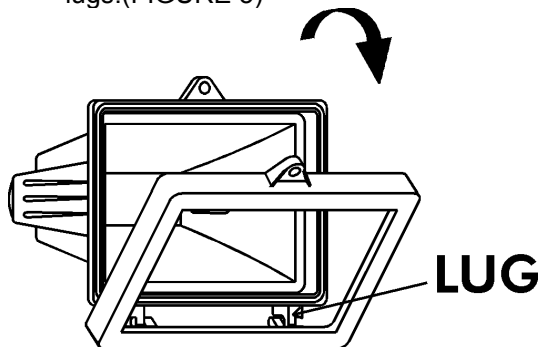

FIGURE 5
- (5) Raise front surround. Lift off retaining lugs.(FIGURE 5)